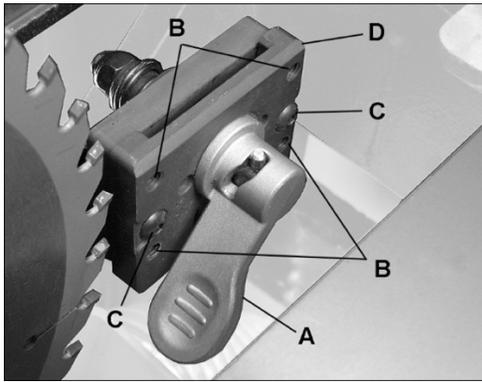

Figure 8-8
3. Pull up lever (A, Figure 8-8) and remove riving knife, making note as to which direction riving knife needs to be moved to align it with saw blade.
4. Use 3mm hex key to make adjustments to four set screws (B, Figure 8-8). Adjust any of the set screws required to bring riving knife in alignment with saw blade.
5. Reinsert riving knife, secure by tightening lever (A) and check alignment per step 2.
2. Use 3mm hex key to loosen two socket head button screws (C, Figure 8-8). This will allow the clamp plate (D) to slide back and forth on the fixed base.